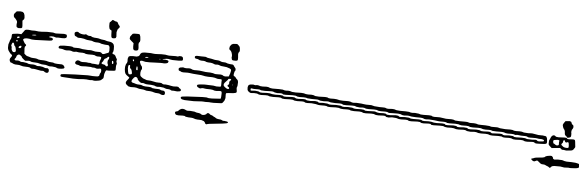

Figure 3
3. Attach the meat fork and locking collar as shown (**Fig. 3**). Modify the position of the locking collar before preparing anything on the skewer.